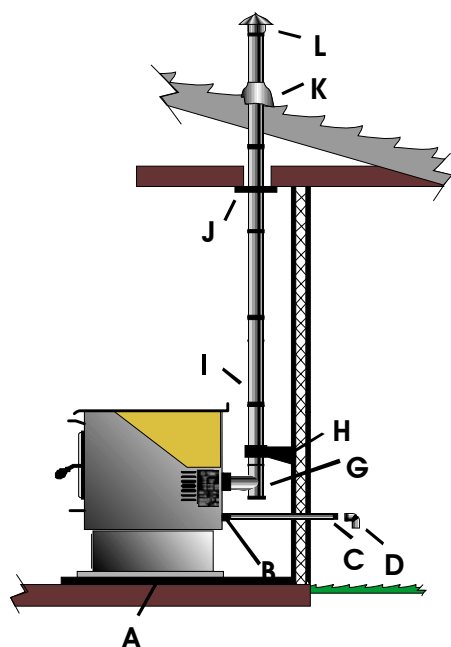

Figure 23
-  Permanently bolt your stove to the floor, (A). Figure 23, 24
-  The stove must have a permanent outside air source with a ¼ inch screen over the inlet. Figure 23, (B,C, D)
-  "PL" or "L" Vent must be 3" or 4" and must extend a minimum of 36" above the roofline of the mobile home and must be installed using a UL/ULC listed ceiling fire stop (J), figure 23, and rain cap (L), figure 23.